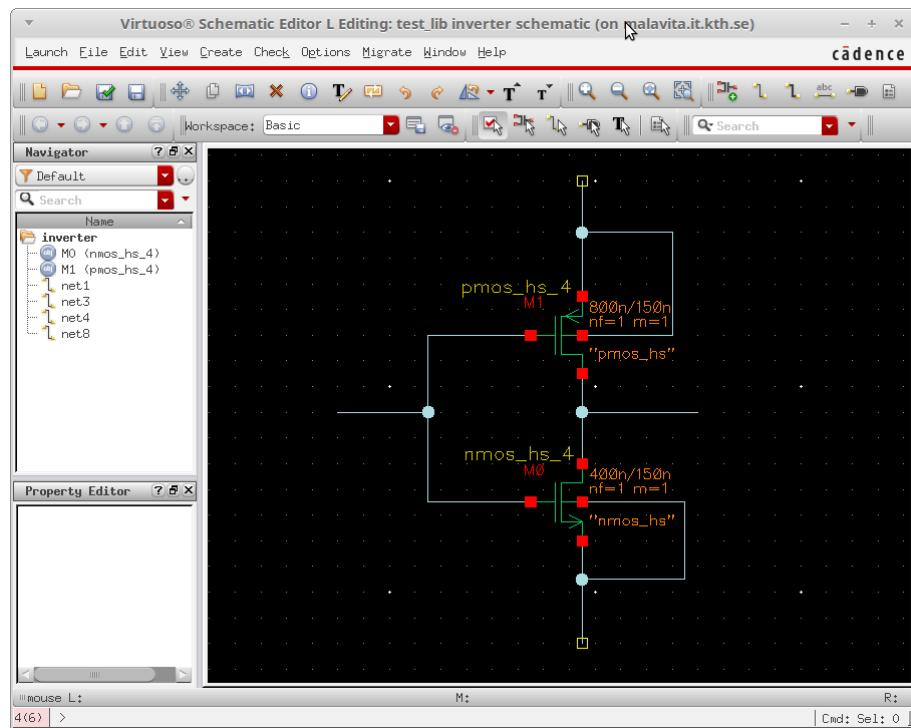

Figure 12: Device connection
7. After placing the components you should move on with connecting them. This is done with wires. To create a wire press 'w' and click on the point where you want the connection to start. You will notice that a wire is created and it is expanding according to the move of your mouse. Click again on the point where you want the connection to terminate. Connect the devices as shown in Fig. 12.